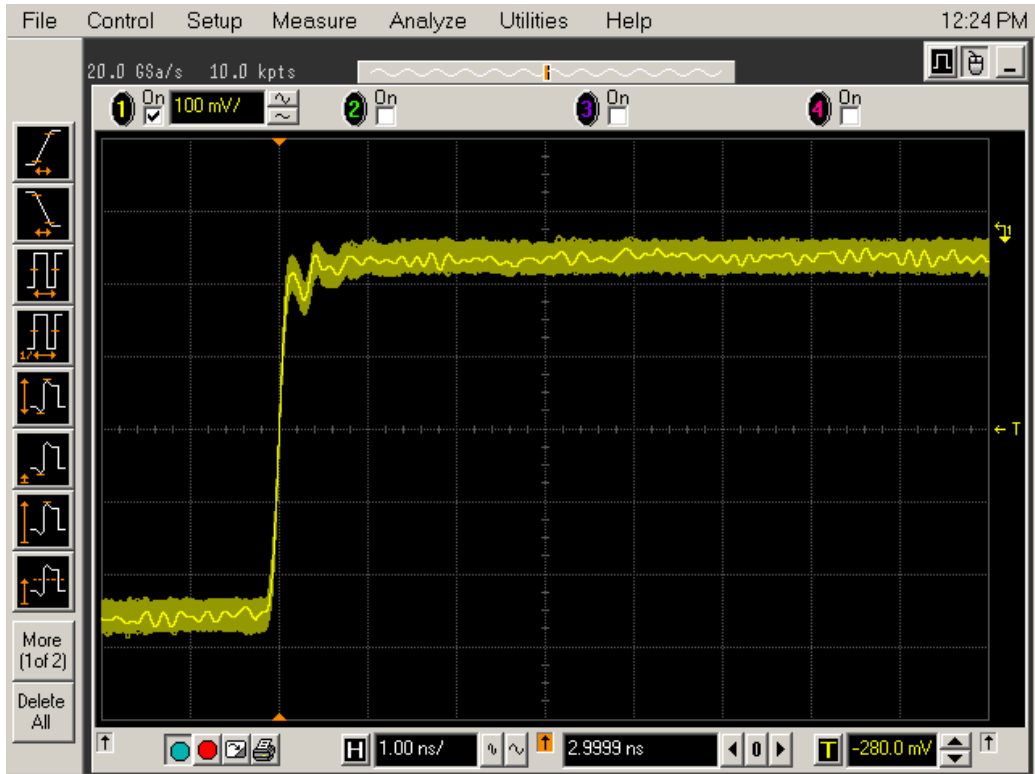

Figure 58 Good Connection Waveform Example
- 4 Set the horizontal position to approximately 3 ns. You should see a waveform similar to that in Figure 58 below.